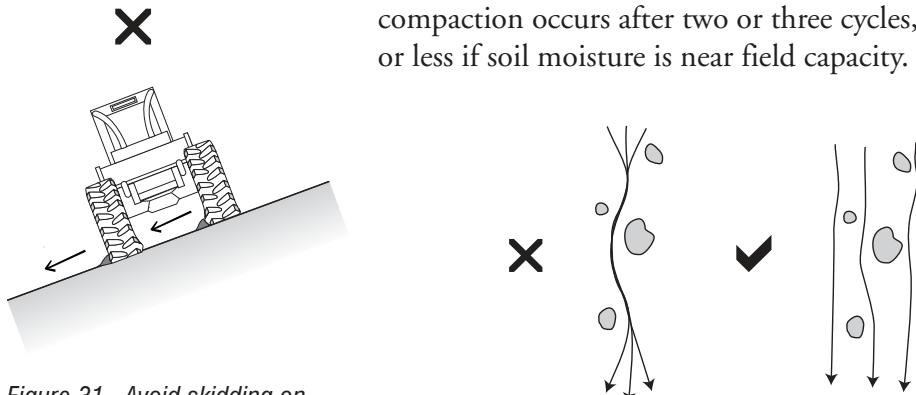

Figure 31. Avoid skidding on side slopes to reduce slippage that can damage or break roots, or tear the forest floor.
- Avoid skidding on side slopes. Slippage can occur easily on side slopes, and can damage or break roots, or displace the protective forest floor exposing mineral soil to erosion (**Figure 31**).